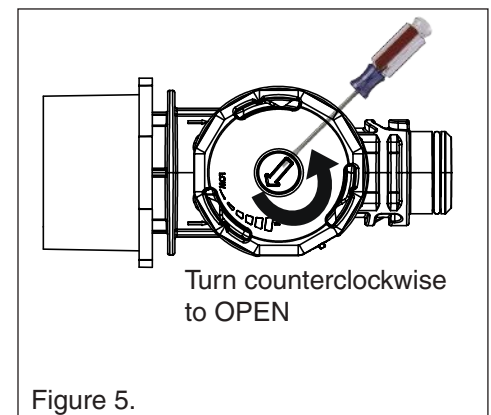

Figure 5.
4. Adjust the valve on the wall fitting using a flathead screwdriver by turning the valve clockwise (to reduce flow) or counter-clockwise (to increase flow) so that the white plunger aligns with the arrows on the flow gauge markings. **See figure 5.**